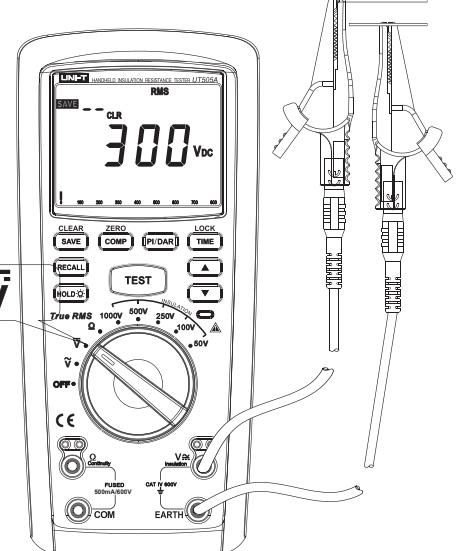

Figure 5
2. DC voltage measurement (See Figure 5)
- ① Insert red test pen in “ ~V ” jack (red hole) and black test pen in “EARTH” jack (black hole).
- ② Push the rotating switch to the gear “ V ” and connect test pen in parallel with the power source or to both ends of the load to be measured.
- ③ Directly read the measured voltage value from display.
- ④ To save the measured voltage value during measurement, just push the button “SAVE”.